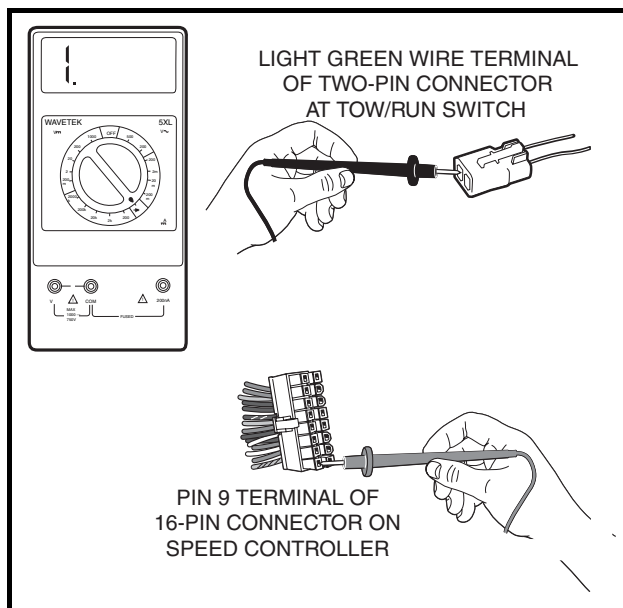

Figure 11-16 Diode Test
4. With the multimeter set to the diode test function ($\rightarrow|$), connect the black (–) probe of the multimeter to the light green wire terminal of the two-pin connector at the Tow/Run switch and the red (+) probe of the multimeter to the pin 9 terminal (**Figure 11-16, Page 11-29**). See following **CAUTION**. The reading should indicate an overload (no continuity). A diode is designed to conduct current in one direction only. If a diode conducts current (shows continuity) with the meter probes as described, the diode has failed and must be removed from the wire harness. See **Pin 9 Diode Removal, Section 13, Page 13-14.**